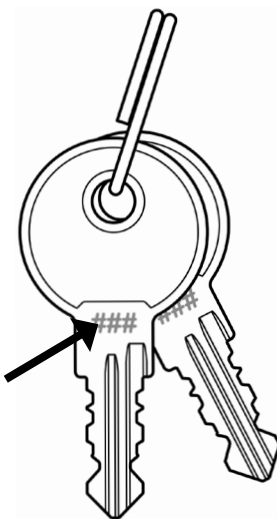
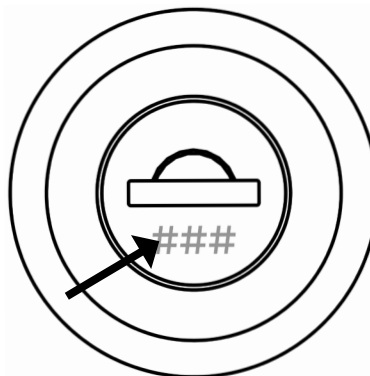

Figure 8: Code on new keys
Figure 9: Code on new lock core
- b. **Note the laser-engraved code** on the face of your new keys (Figure 8) and new lock core (Figure 9). Use this code in case you need to reorder keys. You can also make copies of your key.